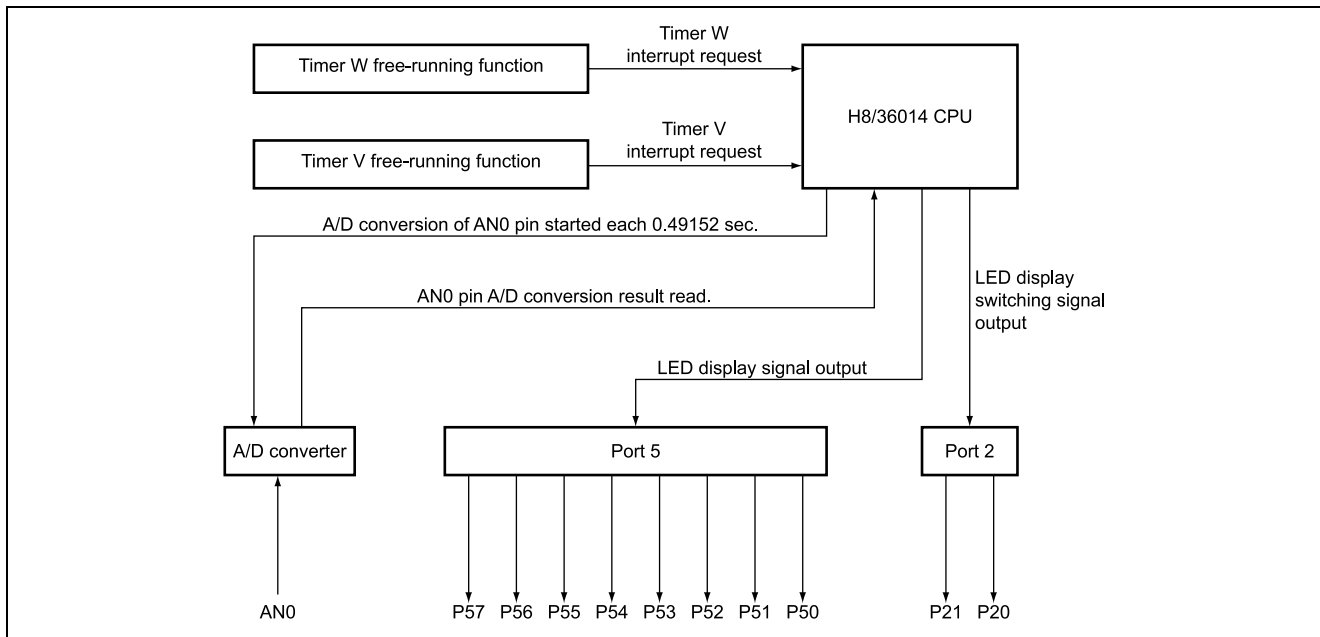

Figure 2.1 Block Diagram of Functions Used
- Figure 2.1 is a block diagram of the H8/36014 functions used in this sample task; table 2.1 shows function allocations.